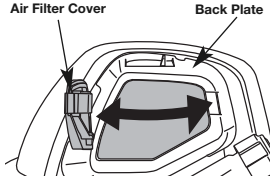

Fig. 28
7. Reinstall the air filter cover. Position the two small tabs on the air filter cover into the two slots in the back plate and press the air filter cover down, making sure to align the lock tab with the lock tab slot, until it snaps into place (Fig. 28 & 27).